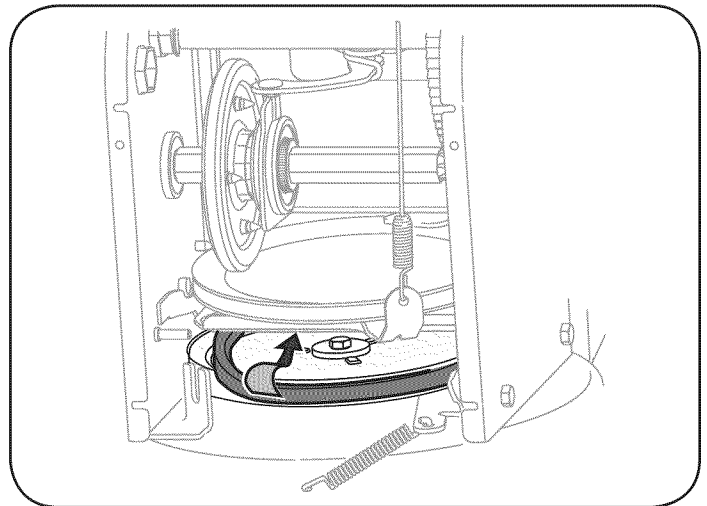

Figure 28
- Remove the belt from around the auger pulley, and slip the belt between the support bracket and the auger pulley. See Figure 28.